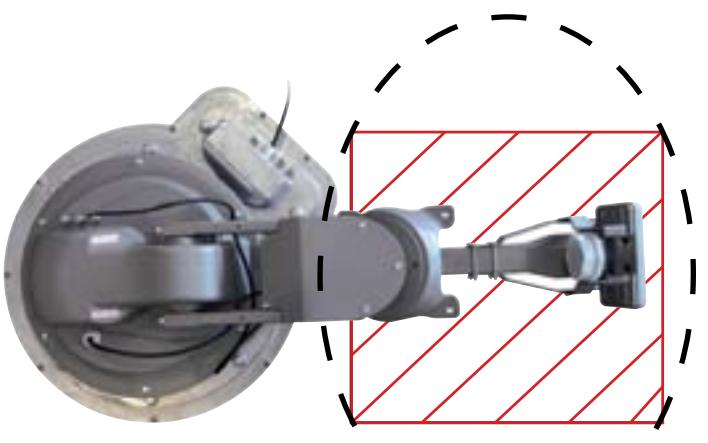

FIGURE 5. Marked area of antenna where cables should not be run
- Wires should not be run through the striped area (see fig. 5). Anything in the striped area will interfere with the operation of the TRAV'LER antenna and may cause damage to the object or to the antenna.